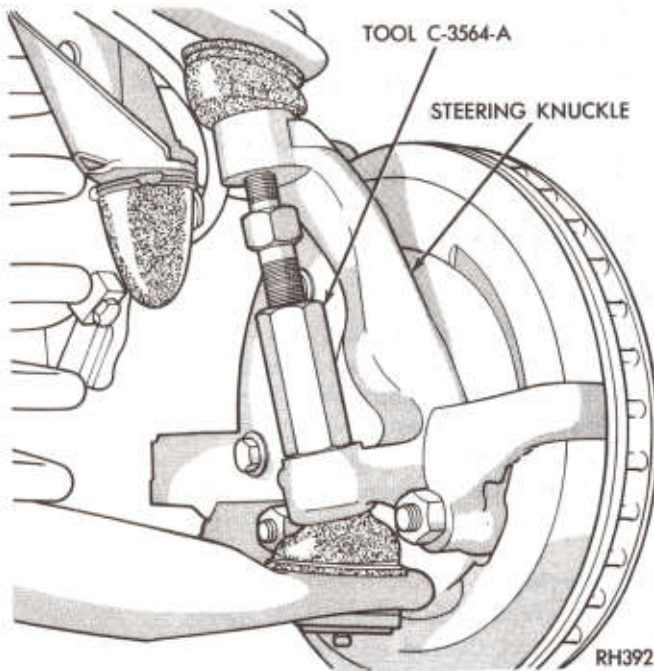

Fig. 8—Ball Joint Breaker Tool Installed
against upper stud (Fig. 8). Spread the tool enough to place the upper stud under pressure, then strike the steering knuckle sharply with a hammer to loosen the stud. **Do not attempt to force the stud out of the knuckle with the tool alone.**
- (2) Remove wheel and tire assembly.
- (3) Remove ball joint nuts. Using ball joint breaker (Tool C-3564-A) free upper ball joint (Fig. 8).
- (4) Using Tool C-3561 unscrew ball joint from control arm.